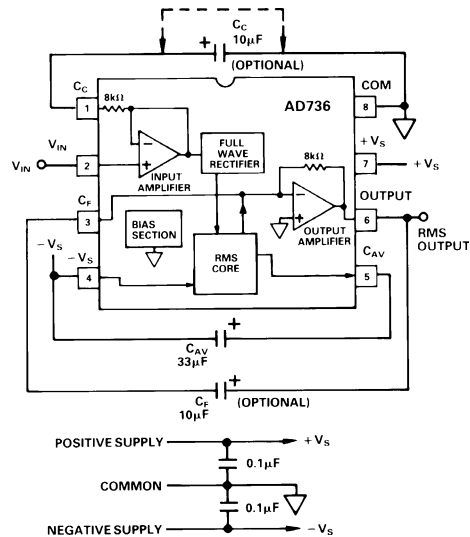

Figure 16. AD736 True RMS Circuit
- ¹Accuracy is specified with the AD736 connected as shown in Figure 16 with capacitor C_C.
As shown by Figure 16, the AD736 has five functional subsec-